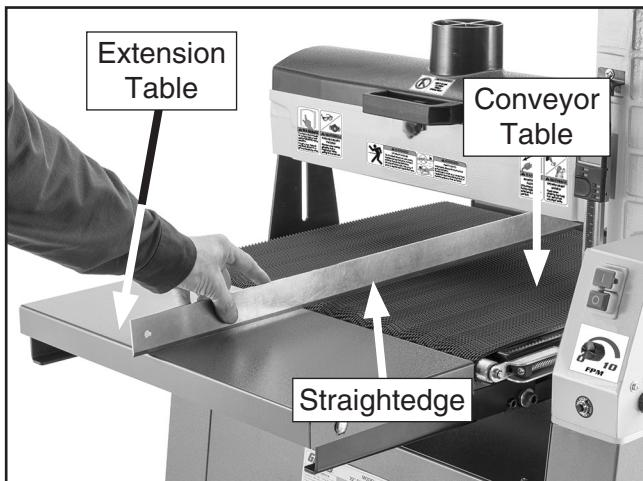

Figure 26. Checking extension table alignment.
- 26.** Use straightedge to check extension table alignment with conveyor table (see **Figure 26**).